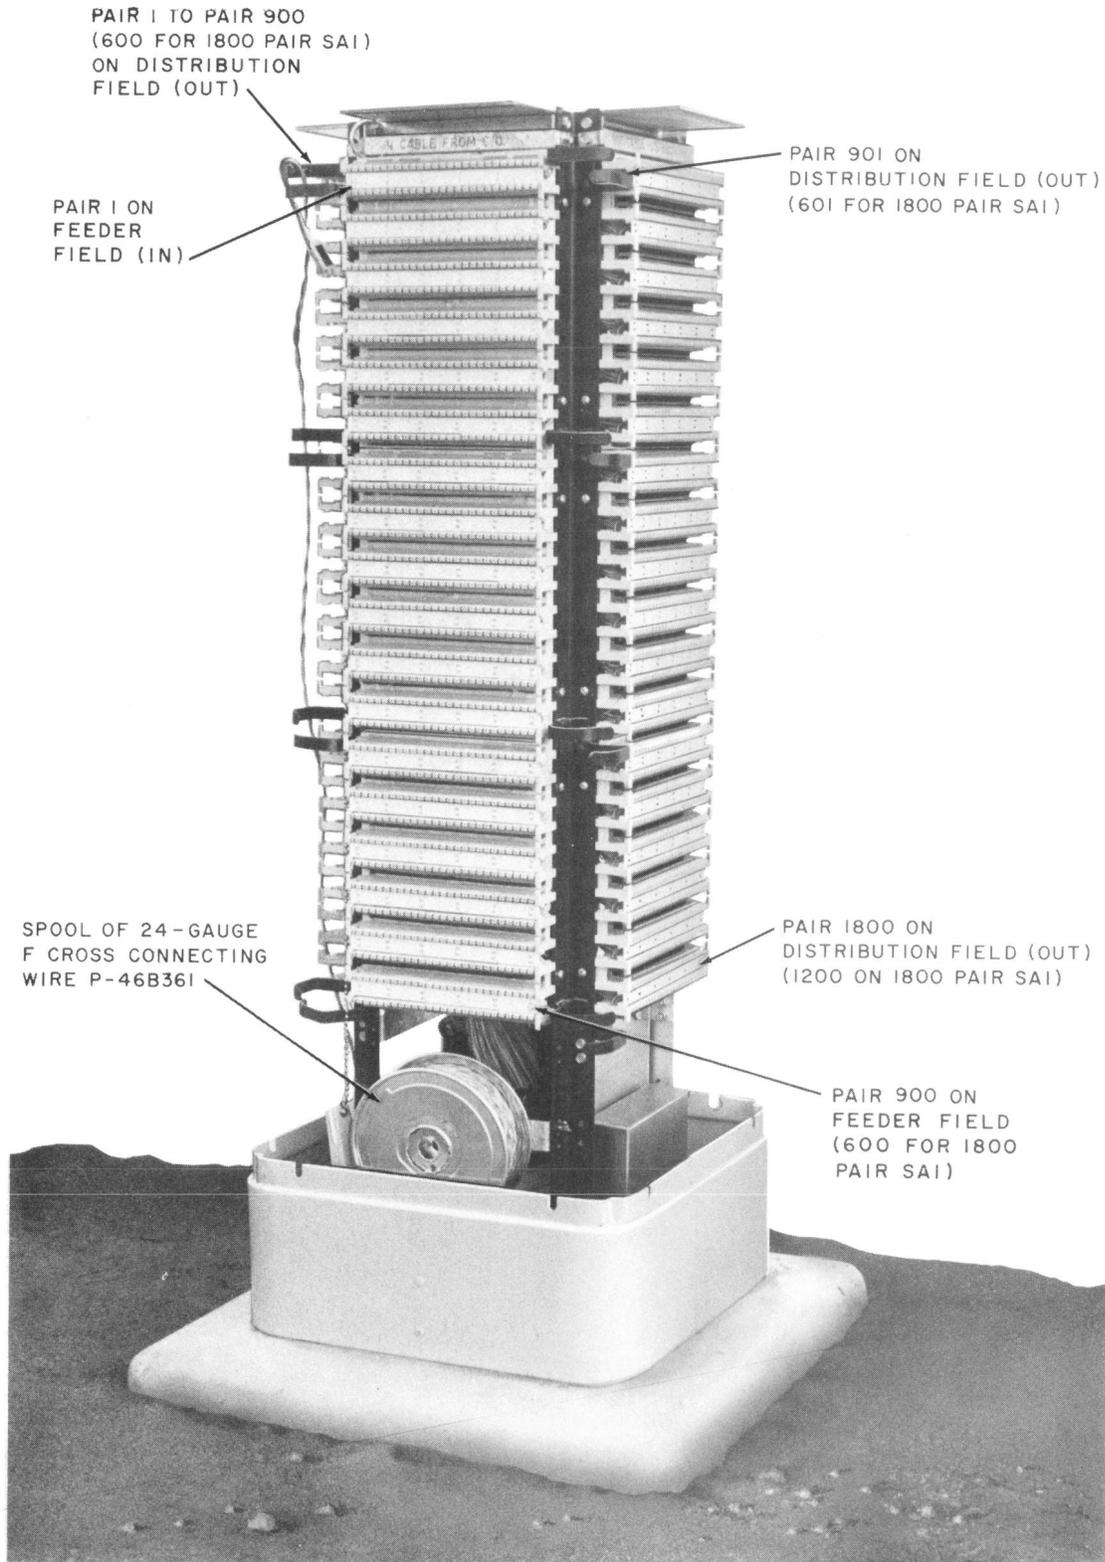

Fig. 26—Marked Interface
11.02 Snap the blue designation strips on the distribution (side) panels with pair 1 at upper left of left panel (Fig. 26).